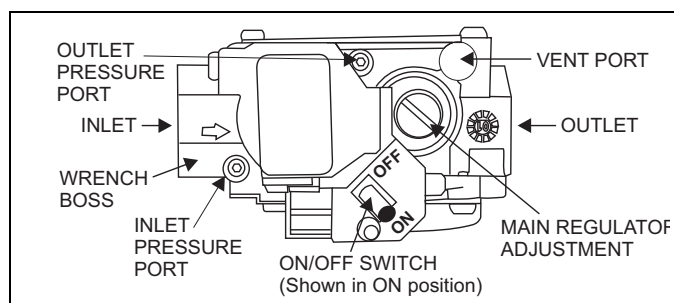

FIGURE 25: Gas Valve
Inlet and manifold gas pressure may be measured by connecting the "U" tube manometer to the gas valve with a piece of tubing. Follow the appropriate section in the instructions below. Refer to Figure 25 for a drawing of the locations of the pressure ports on the gas valve.
1. Refer to Figure 25 for location of pressure regulator adjustment cap and adjustment screws on main gas valve.